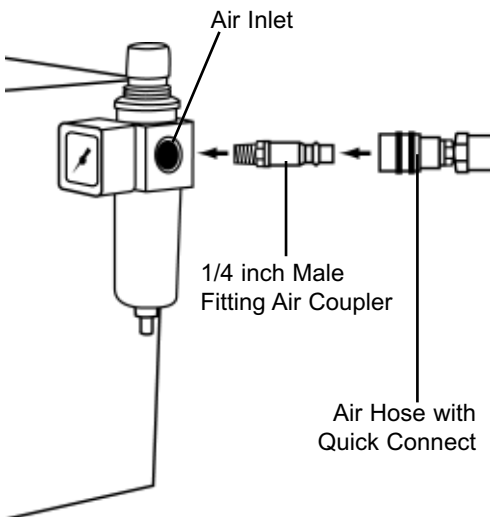

Figure 3. Connecting the Air Supply
3. Attach air hose (with quick connect coupler) to 1/4 inch male air coupler. Make sure air hose is fully seated on coupler before letting go. (See Figure 3)